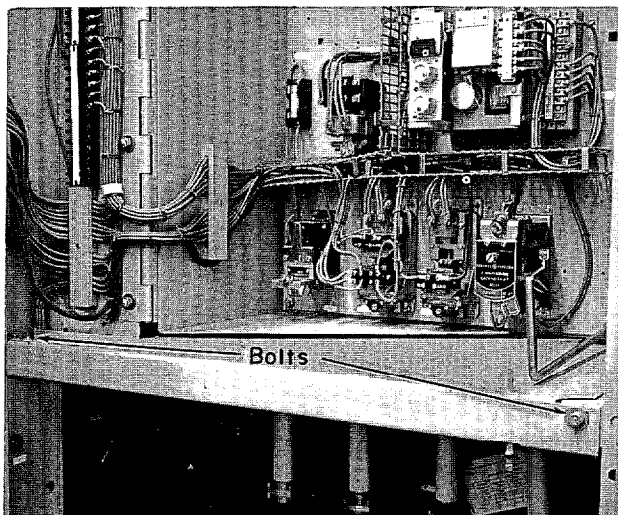

Fig. 28. Bolts to be removed to remove horizontal shelf and barrier.
6. Prepare to remove the horizontal compartment barrier by removing the bolts shown in Fig. 28.